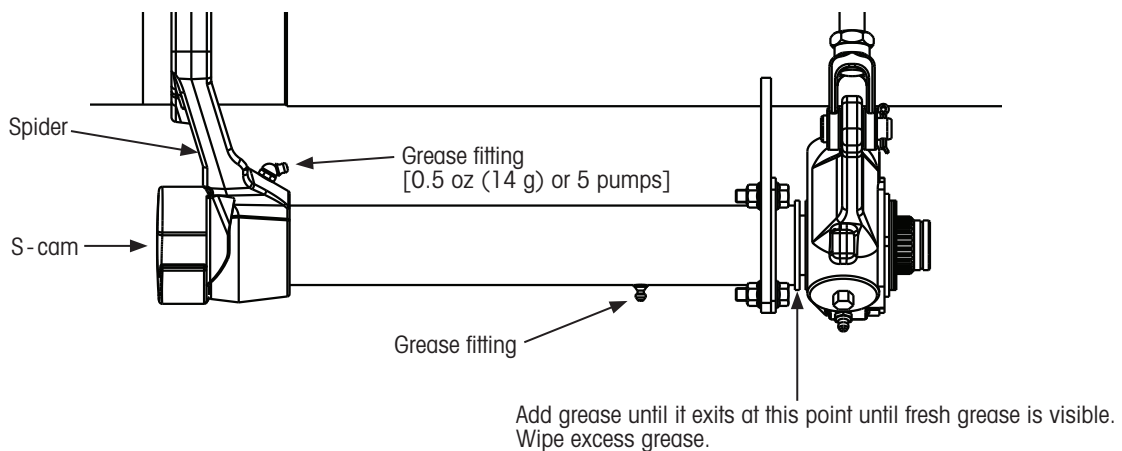

Figure 4: Cam tube weld mount assembly (top view)
3. Rotate the cam tube so the grease fitting is accessible and pointing rearward (refer to Figure 4).
Grease points include cam tube grease fitting and spider grease fitting (if exists), refer to Figure 4. Each is filled with #2EP NLGI chassis lube:
1. Lubricate the single, centrally located grease fitting on the cam tube. Add grease to cam tube until **fresh** grease can be seen purging from the end of cam tube at points shown in Figure 4.